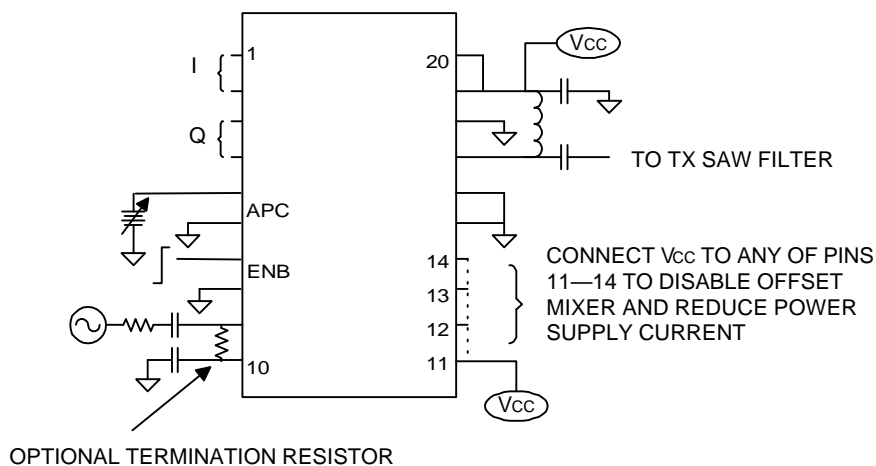

Figure 5. W3011 Application with Offset Mixer Disabled
If the offset mixer in the W3011 is not required for the frequency plan, the offset mixer may be turned off by connecting the positive supply (Vcc) to any or all of pins 11 (LOHN), 12 (LOHP), 13 (LOLN), or 14 (LOLP), as illustrated in Figure 5 below. Disabling the offset mixer reduces current consumption 2 mA to 3 mA. If pin 11 is connected to Vcc, pins 12, 13, and 14 must be connected to Vcc or no-connect (NC). Connect the RF VCO to either pin 9 or pin 10 through a low-impedance coupling capacitor, and connect the unused pin (10 or 9) through a similar capacitor to ground.